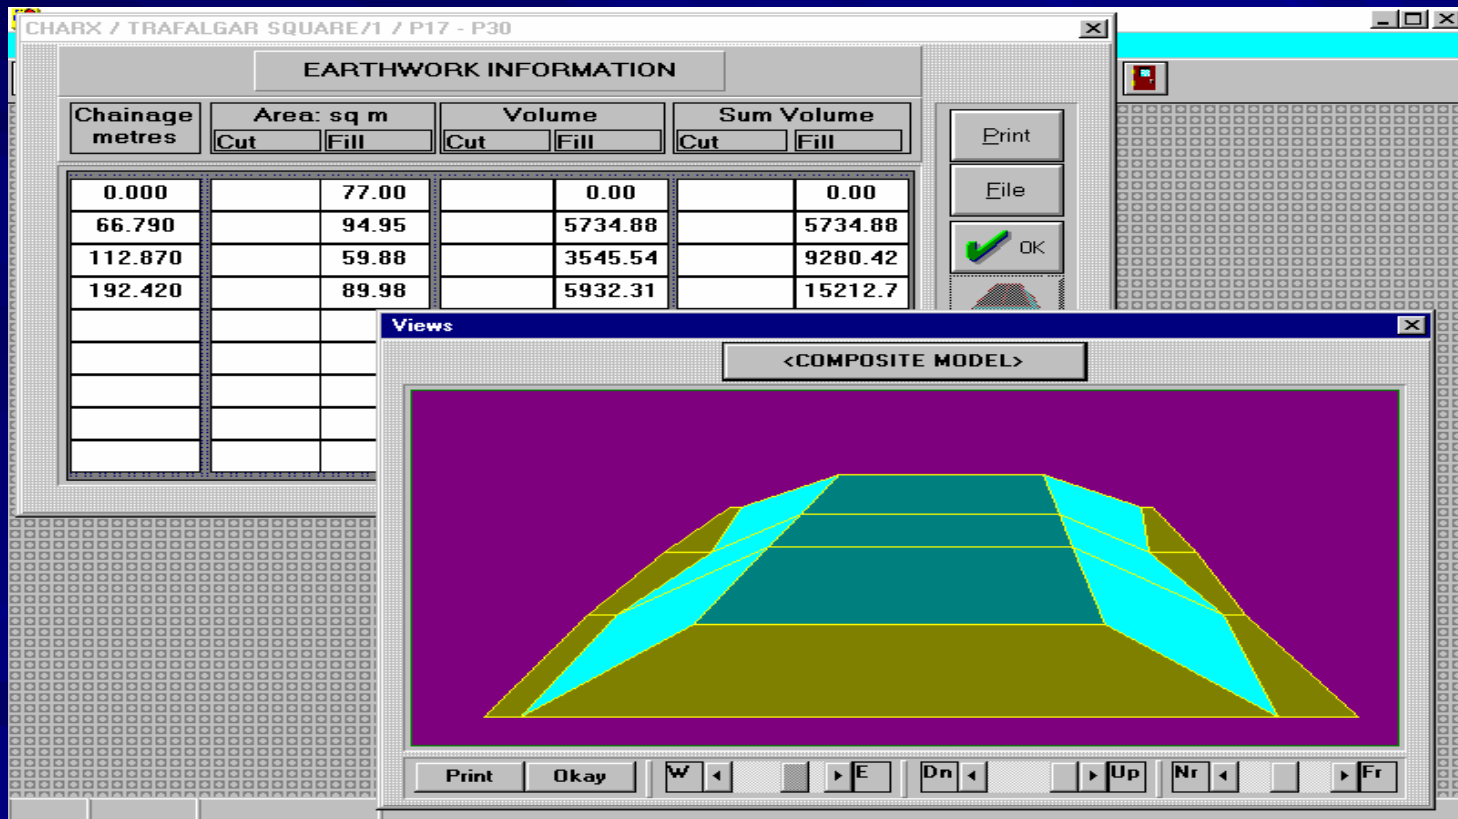

Fig. 8-3
- Design and topography may be visualised or realised in a 3-D diagram, Fig. 8-3.